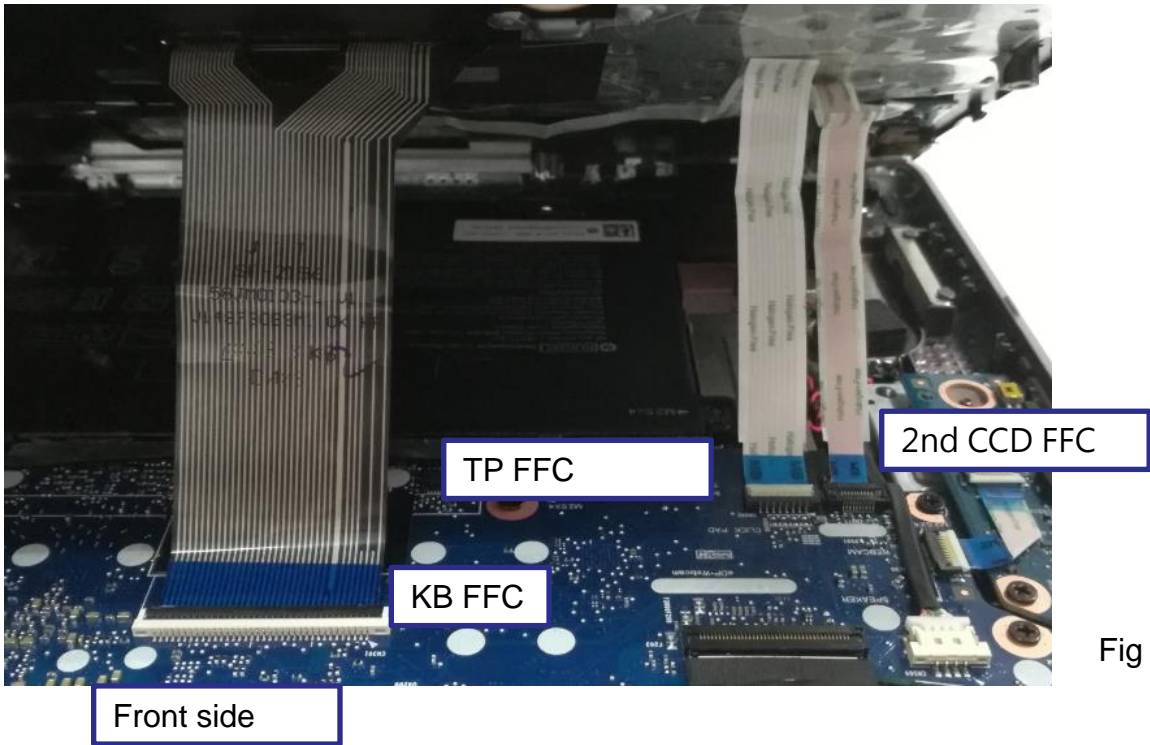

Fig 1
- 1. Disconnect 2nd CCD FFC,TP FFC,KB FFC from main board(Fig 1,2)